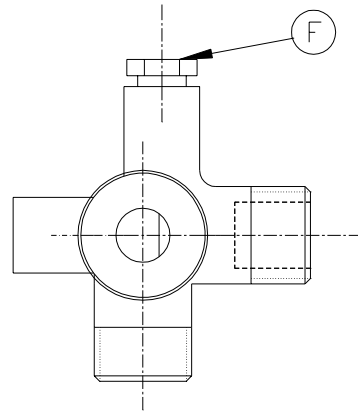

Fig. 4
- a) For LP gases, the adjusting screw of minimum flow "F" (Fig. 4) must be fully tightened.
- b) For natural gas and city gas, turn the adjusting screw of the minimum flow "F" (Fig. 4) anticlockwise, until the flame is stable in the minimum position.